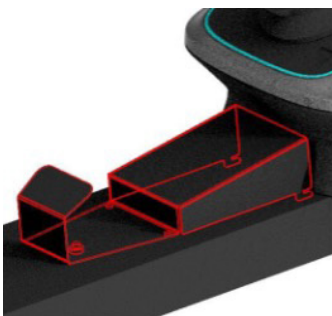

Figure A-13 Thread hook and thread guard installation
4. Insert the hanger hook and guard cover into the mounting position and push them up, and then lock them from the front with two M4*12 pattern composite screws (Torque: 1.4~1.6 N.M) with column core head, as shown in Figure A-13.